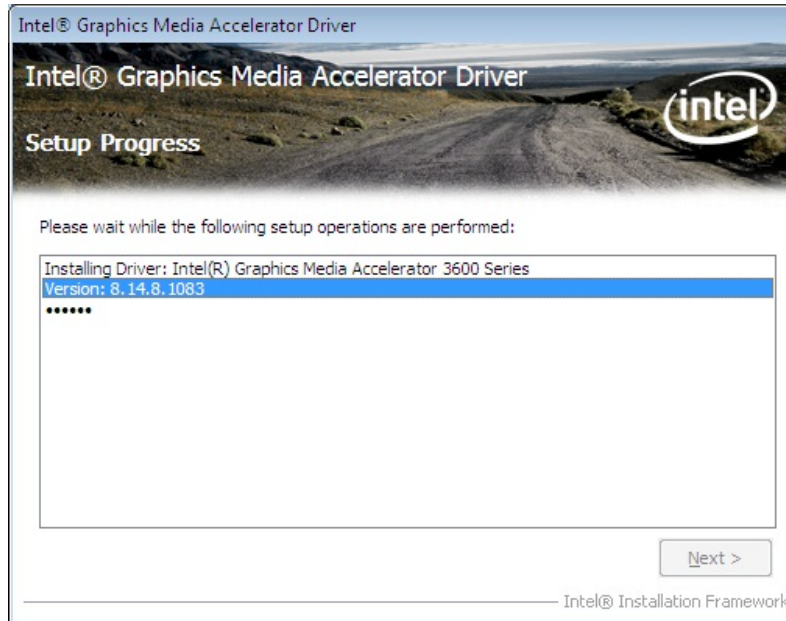

Figure 6-12: VGA Driver Setup Operations
Step 12: Setup Operations are performed as shown in **Figure 6-12**.